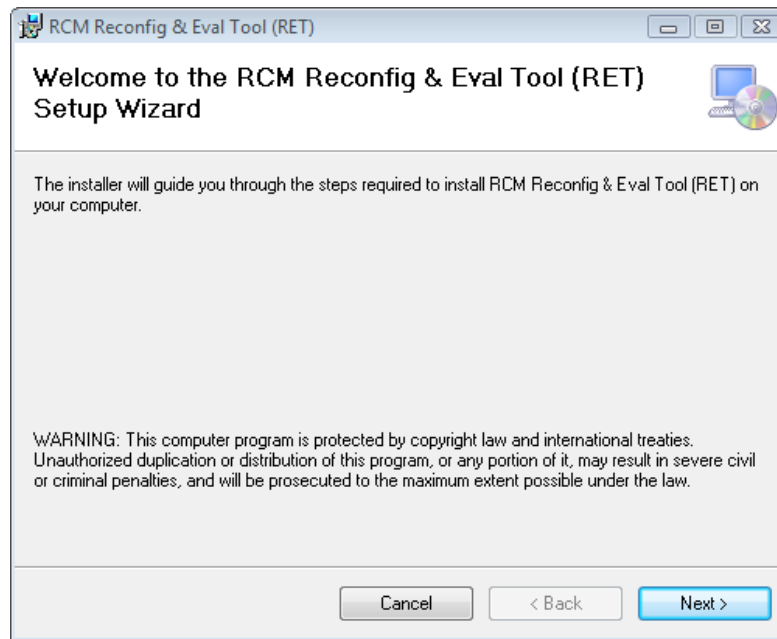

Fig. 2: Initial installation screen for the P400 RCM RET software
3. Onscreen, you should see the box shown in Fig. 2.